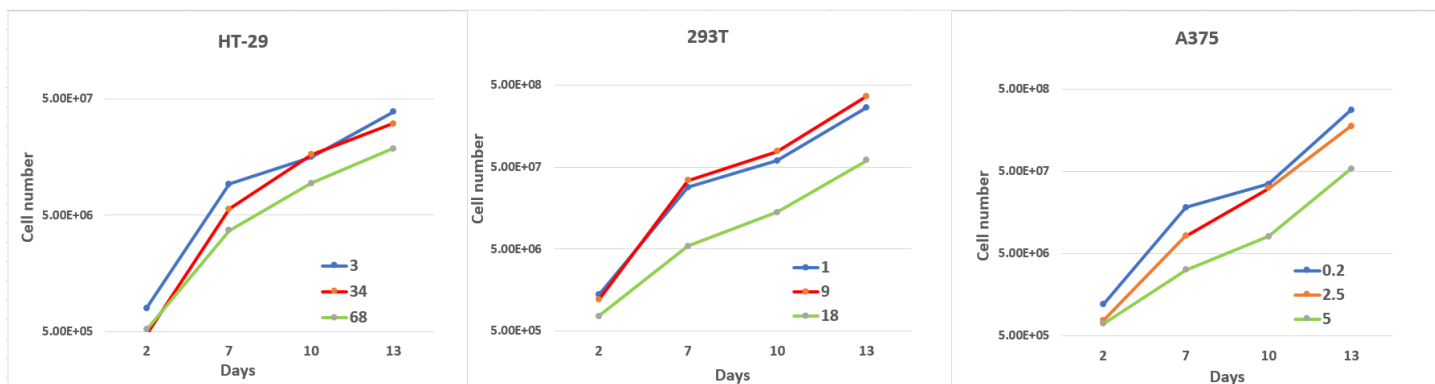

Figure 5. Growth curves for HT-29, 293T, and A375 Cas9+ cell lines produced with varying Cas9 lentiviral MOIs.
4. Transduce target cells with a wide range of MOIs using the Cas9 lentivirus stock. Start with MOIs as high as 50–60 and then perform serial dilutions (see Figure 5, below). If possible, centrifuge the cultures to improve transduction efficiency.
10. When sufficient curves are established, choose the cells transduced with the highest amount of virus that does not affect cell growth or viability. Optimal MOIs vary by cell type and will depend on the cells' tolerance for Cas9 expression and ability to be transduced easily. In Figure 5 above, for example, the samples of HT-29, 293T, and A375 cells produced with MOI of 34, 9, and 2.5, respectively, should be used. Certain cell lines may not be affected by constitutive Cas9 expression, whereas others may be extremely sensitive.